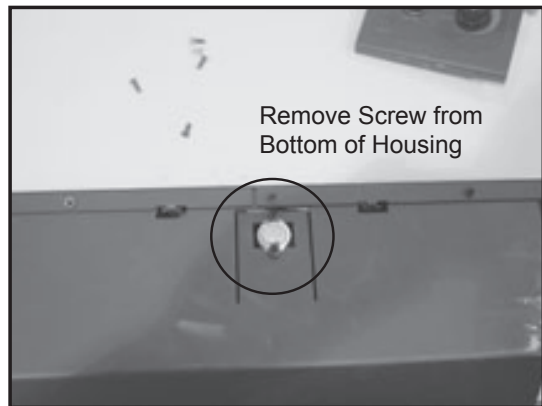

Figure 43.2
6. Remove the heat shield from the housing. First remove the screw on the bottom of the housing that holds the heat shield support. Second, remove the three flat head screws that hold the shield to the housing. **Figures 43.2 and 43.3.**